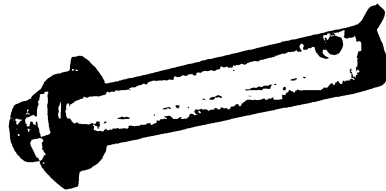

FIG. 3. ADJUSTABLE TOOL BORING BAR
cutters, can be used in place of drill chuck. (8) When the adjustable tool boring bar (Fig. 3) is used in place of the drill chuck, it affords a substantial boring device for deep hole work, free from chatter, and strong enough to remove the stock as fast as could be done in a heavy lathe or boring machine. To thread the head at "A" remove the graduated dial by lifting it from the screw, using two screwdrivers, one on either side. After taking out adjusting screw, remove gib ring "L", sliding plate "M", and key plate "N". Then clamp the surface "H" against a true running face plate and center it, using an indicator against the outside surface "K". The diameter "A" can then be bored and threaded true with the head.